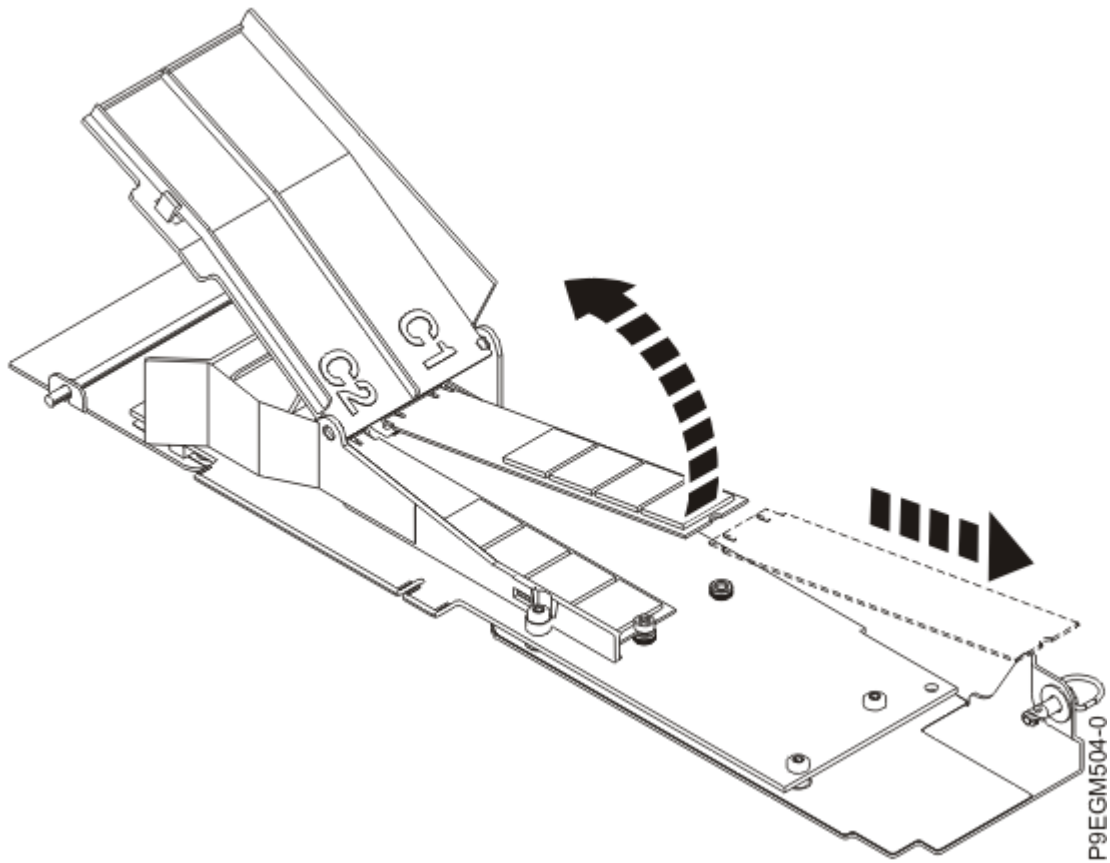

Figure 56. Removing the NVMe M.2 carrier card flash module
- c) Remove the NVMe M.2 flash module by lifting and rotating it as shown in Figure 56 on page 65.